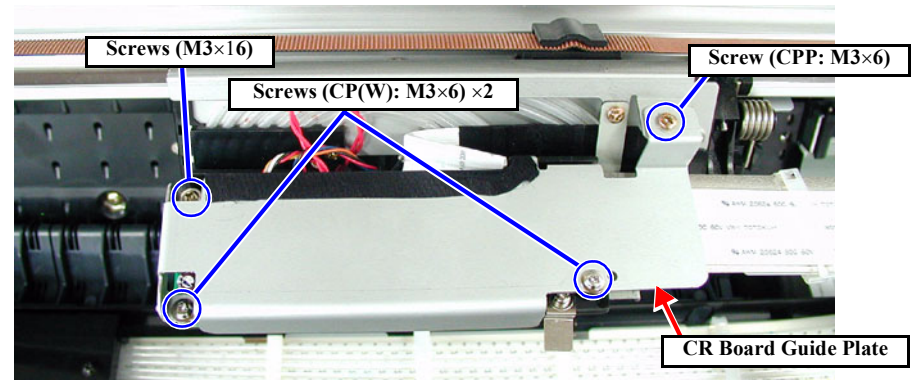

Figure 4-30. CR Board Guide Removal
5. Remove one screw (CPP M3×6), two screws (CP(W): M3×6) and one screw (M3×16) securing the CR Board Guide, and also the ground line and the toothed washer (M3), and remove the CR Board Guide. (See Figure 4-30)
6. Remove one screw (CPPM3×6) securing the CR Board Guide, and remove three screws (CP(W): M3×6) securing the ground line, washer (M3), and CR Board Guide. (See Figure 4-30)